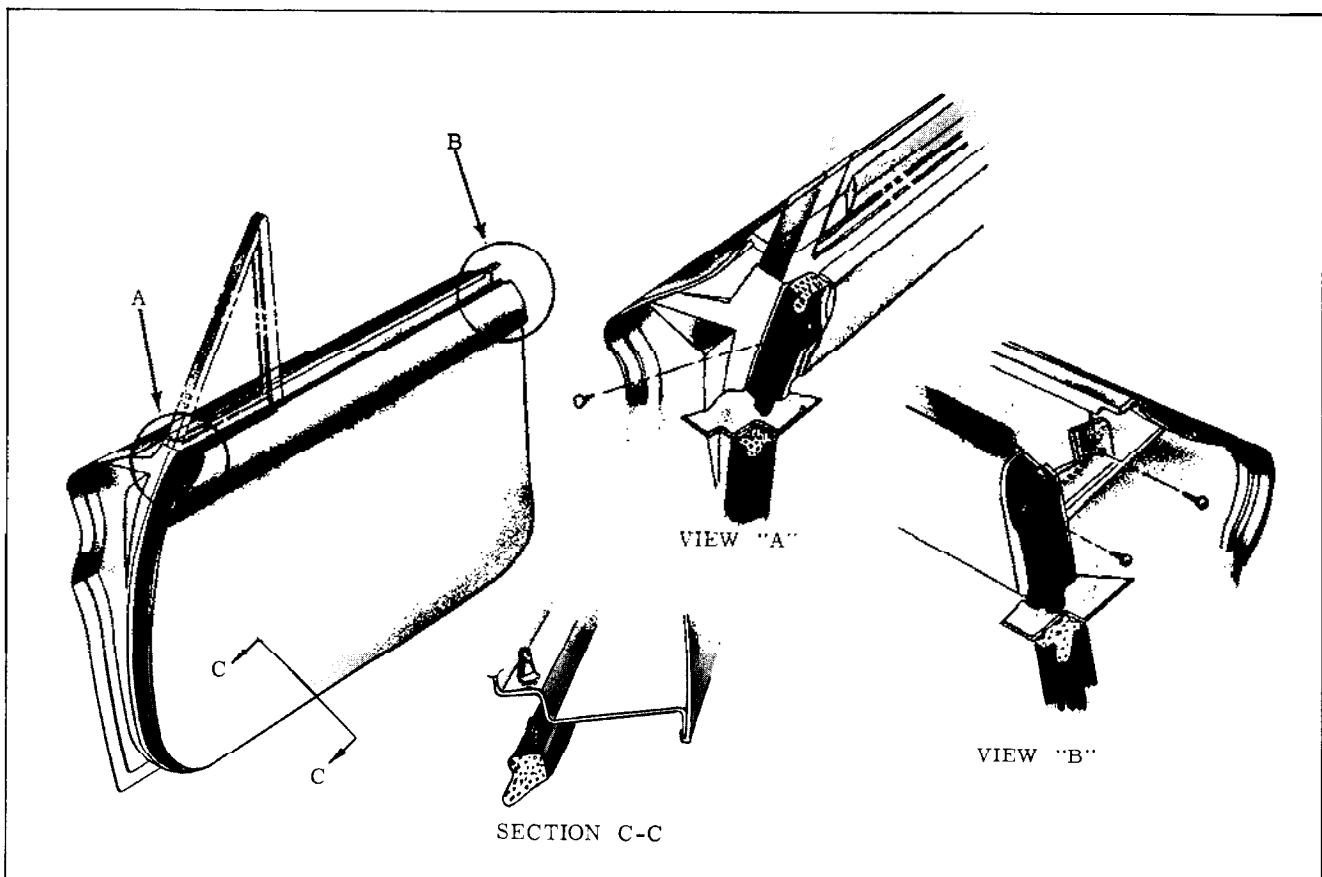

Fig. 15-11 Convertible Door Weatherstrips
4. Prior to installation of weatherstrip, apply a four (4) inch bead of an approved weatherstrip cement at top four (4) inches of hinge and lock pillar panels. (Fig. 15-11)